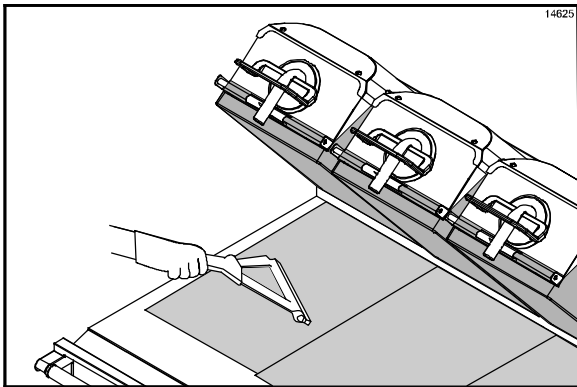

Figure 30
4. Carefully squeegee the air bubbles from center to side, making sure the release sheet does not become folded or creased. (See Figure 30.)